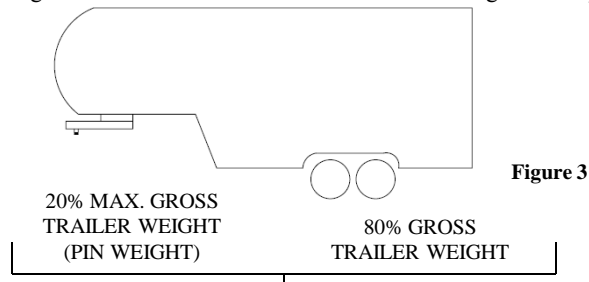

Figure 3
- King pin weight must not exceed 3,200 pounds (See Fig. 3). If in doubt have king pin weight measured by qualified facility.
2. The Sidewinder™ pin box is designed for a maximum of 20% Gross Trailer Weight on the pin (Pin Weight). See Fig. 3